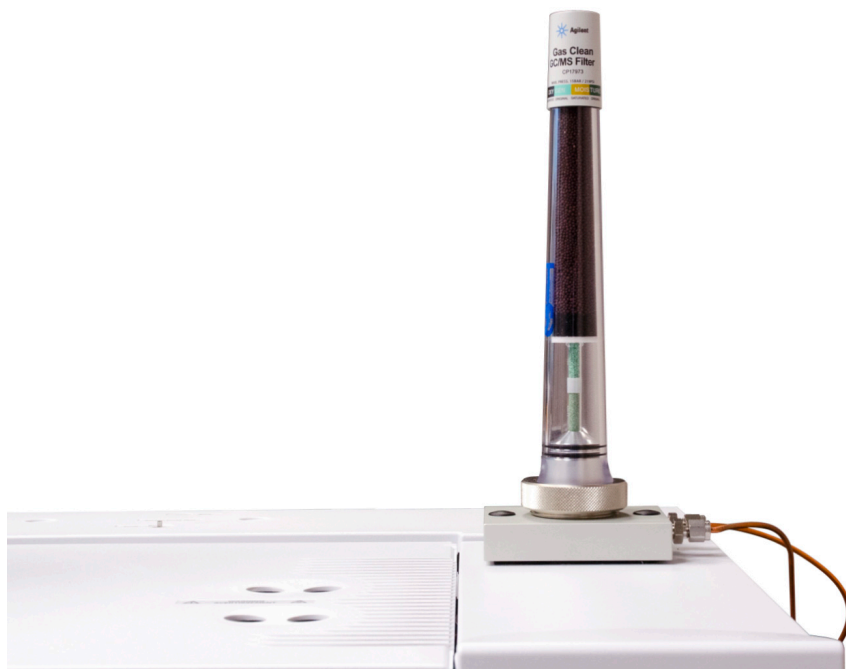

Figure 13 Filter base attached to the top of instrument using the supplied hook and loop fabric strips
- 3 Place the connecting unit onto your instrument. Press firmly down so the adhesive sets properly on both the connecting unit and instrument surface (Figure 13).